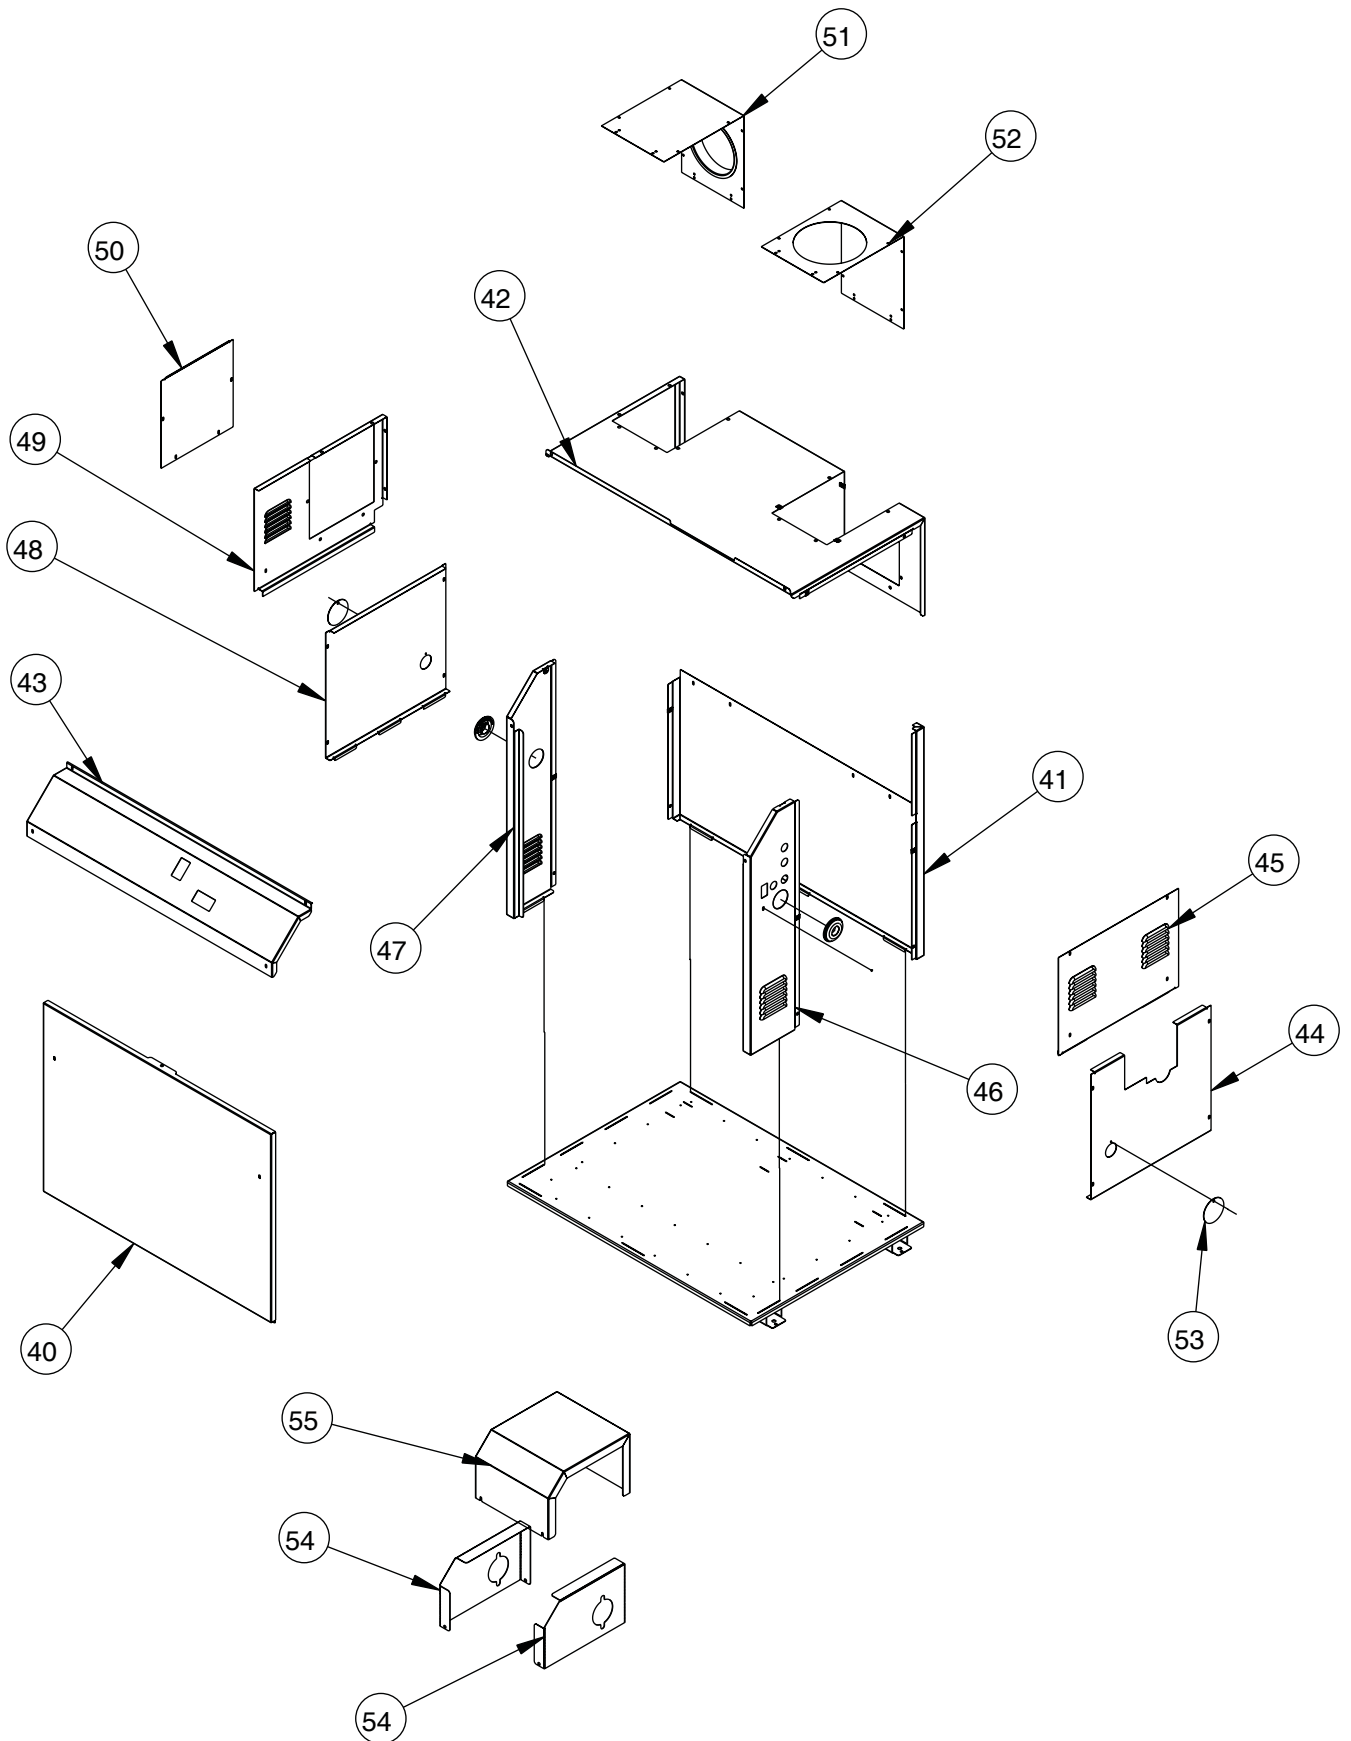

Figure 16. Jacket Components.
**JACKET COMPONENTS****See Figure 16**
See Figure 16